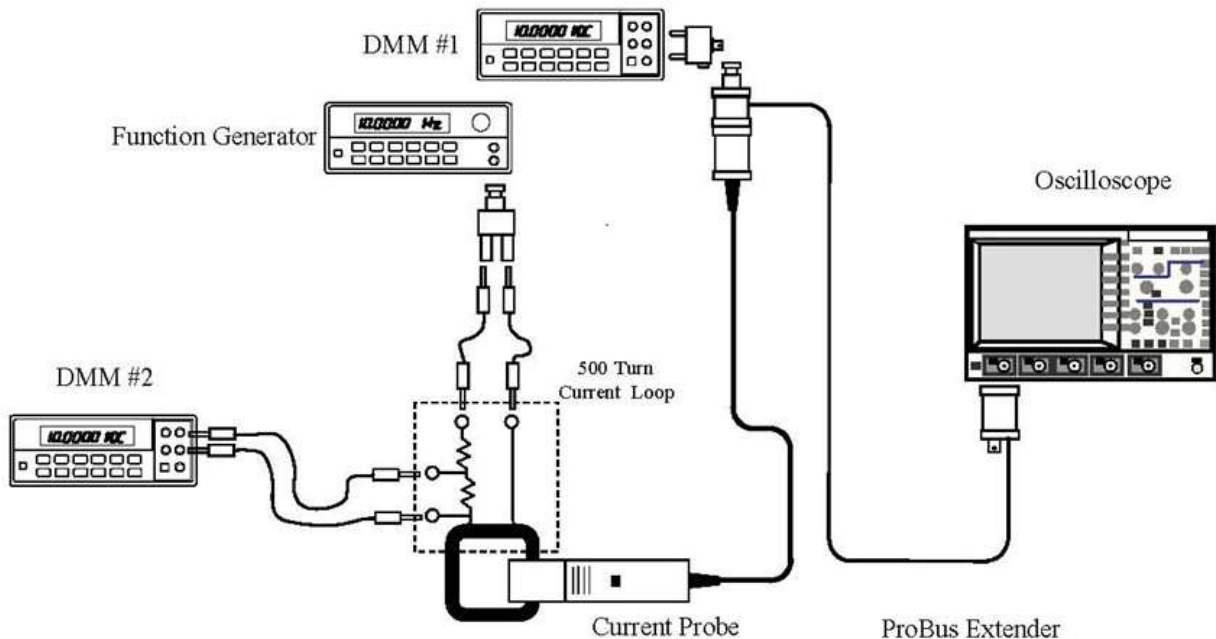

Figure 4. LF accuracy adjustment set up.
3. Using banana patch cords, connect the 'V Source' and 'V Return' terminals of the 500 Turn Calibration Loop, to the output of the Function Generator using the BNC to Dual Banana Plug Adapter output. (Refer to Figure 4.)